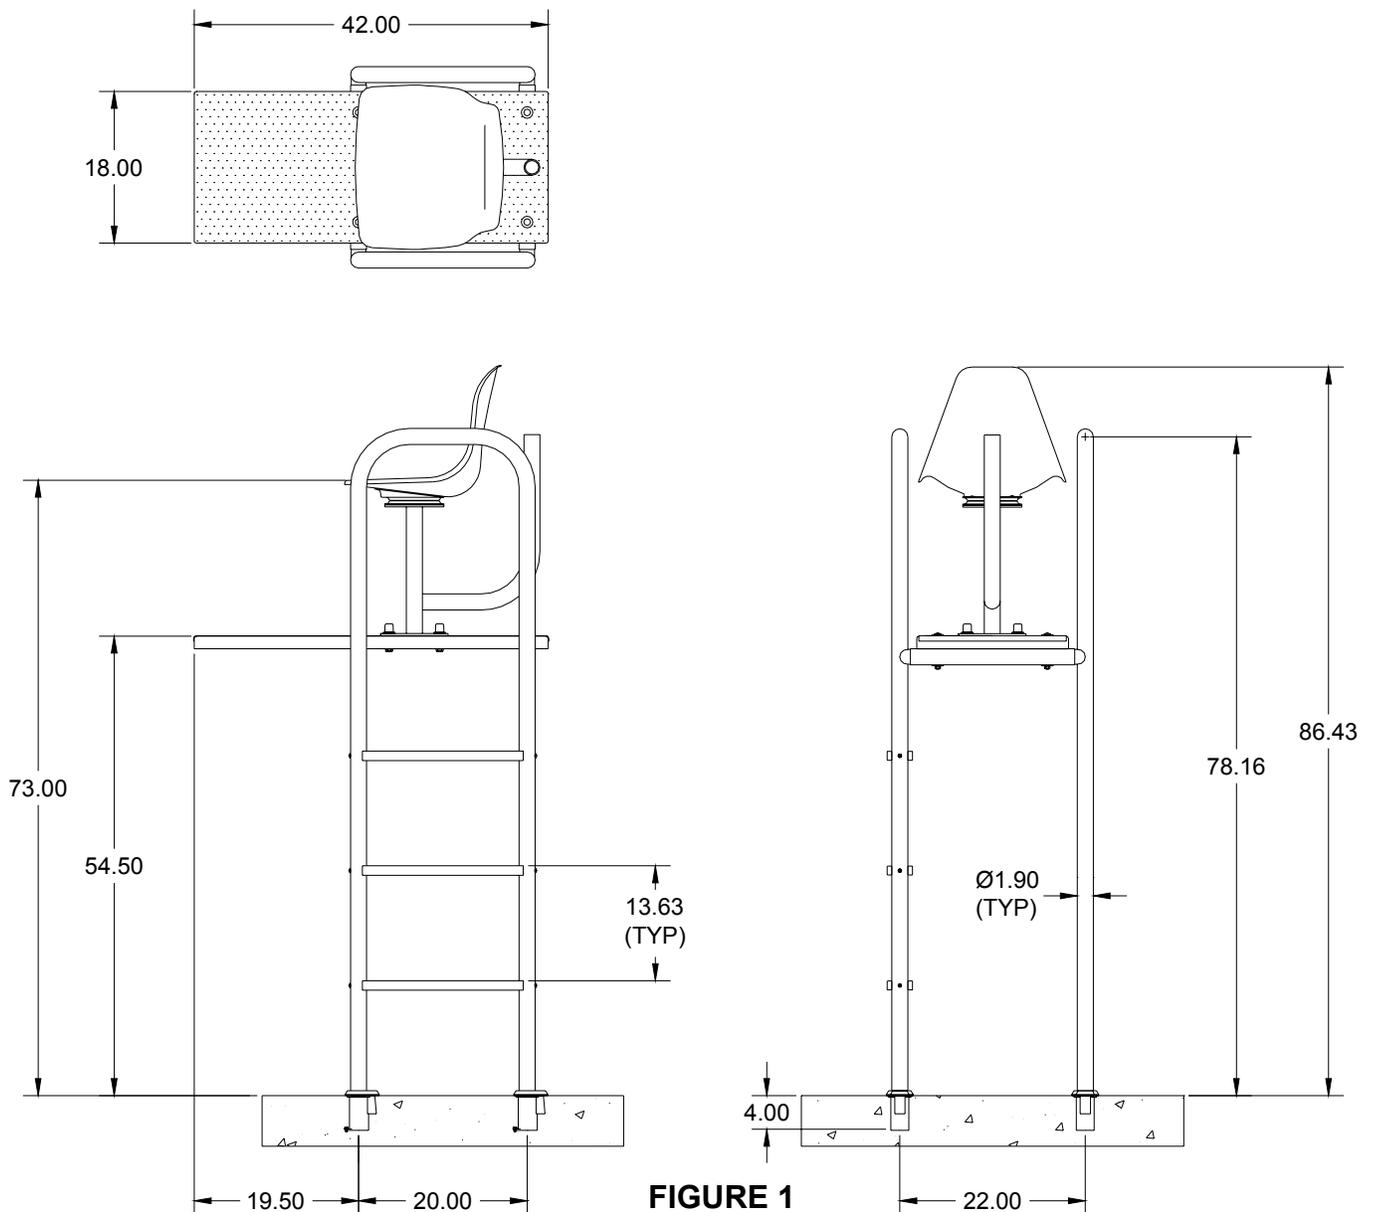

FIGURE 1
1. Install four **Anchor Socket Assemblies (item 23)** in concrete, flush to deck, as shown in **FIGURES 1 & 2**. Allow concrete to fully cure before installing the Institutional Lifeguard Stand.
- Slide **Escutcheon (item 24)** over the ends of the Left and Right Frames. Place Frames, with Footboard and Footboard Supports attached, into the four Anchor Sockets in the deck as shown in **FIGURE 1**. **DO NOT TIGHTEN BOLTS IN ANCHOR SOCKETS AT THIS TIME.**